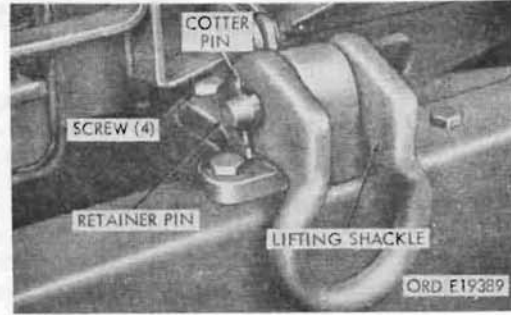

Figure 249. Lifting shackle
a. **General.** The lifting shackles (fig. 249) are located on the top of the front bumper and are secured to the bumper by brackets, screws and safety nuts.